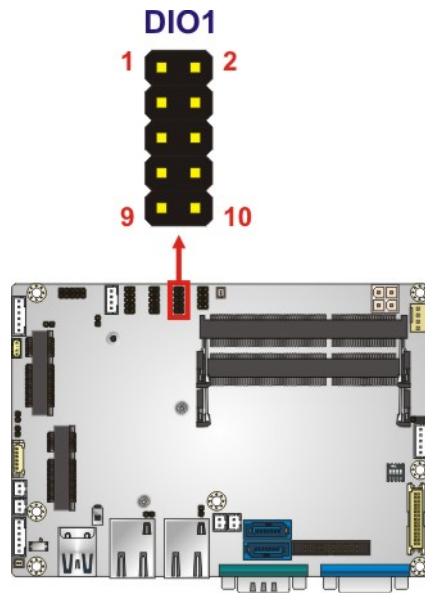

Figure 3-8: Digital I/O Connector Location
- CN Location:** See Figure 3-8